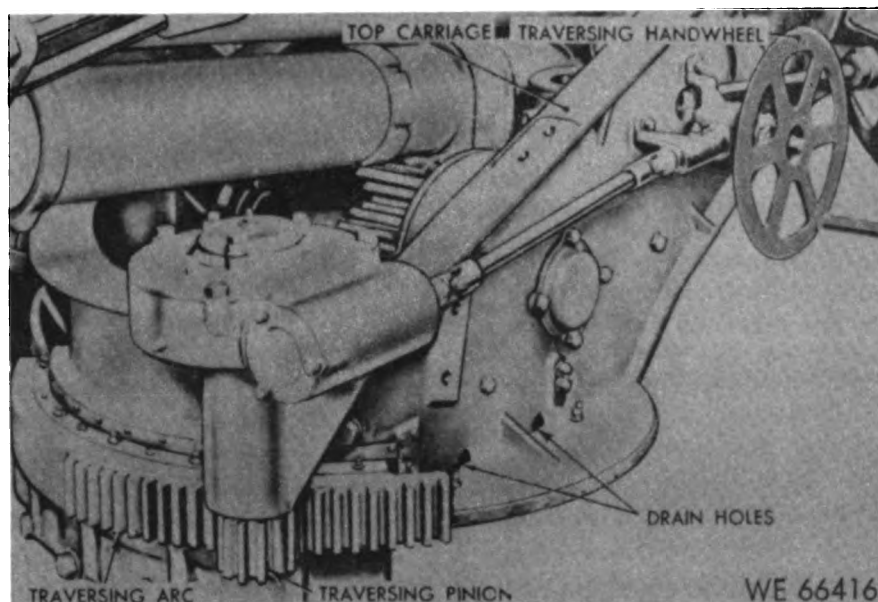

Figure 133. Traversing mechanism—left front view.
There are two drain holes (fig. 133) in each side of the top carriage. Keep these holes open to prevent the accumulation of water and the resultant formation of rust. No other maintenance of the top and bottom carriages except normal cleaning (para 71c), painting (para 67c and d), and lubrication (para 64) is prescribed for the using organization.
*b. Traversing Mechanism.* The traversing mechanism is secured to and rotates with the top carriage. It controls the movement of the weapon in azimuth by means of the traversing pinion (fig. 133), which is rolled in the teeth of the stationary traversing arc. Motion of the traversing mechanism handwheel assembly is transmitted through gears, flexible joints, a shaft, a worm, and a worm wheel to the traversing pinion, which meshes with the traversing arc. The mechanism is mounted on the left of the top carriage to provide clearance for the weapon at minimum elevation.